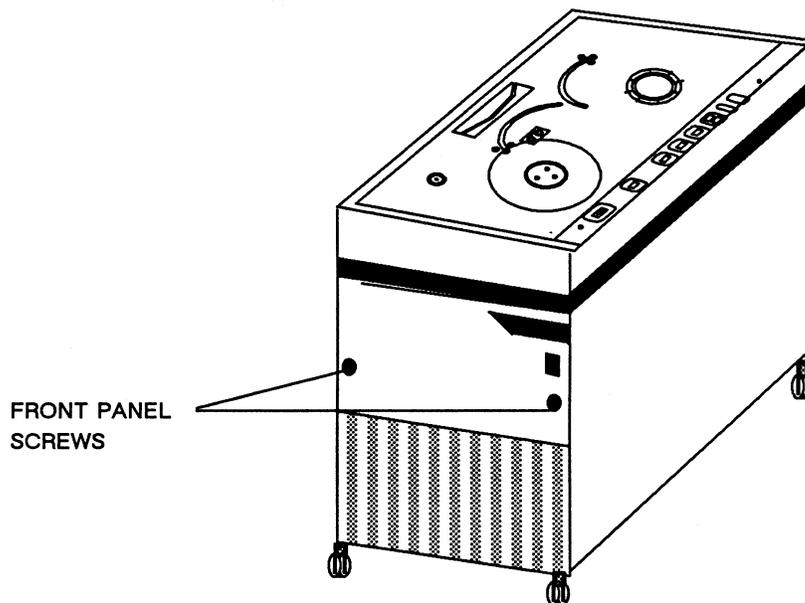

Figure 2-16. CADDServer Peripherals Cabinet, Front Panel
You must remove the front panel on the CADDServer Peripherals Cabinet (see Figures 2-16 and 2-17) if you need to check the disk drive type. To remove the front panel, follow this procedure:
1. Using a flat-blade screwdriver, remove the two screws from the front panel. See Figure 2-16.
Figure 2-16 shows the front panel of a CADDServer Peripherals Cabinet.